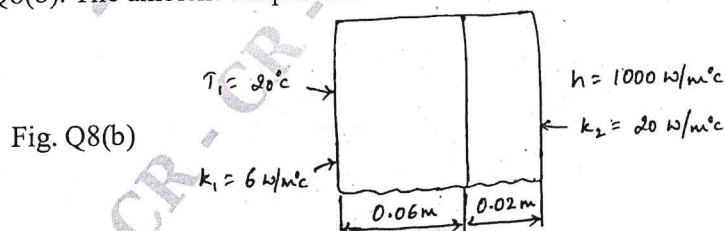

Fig. Q8(b)
b. Determine the temperature distribution through the composite wall subjected to convection heat loss on the right side surface with convective heat transfer coefficient as shown in fig. Q8(b). The ambient temperature is -5°C . (12 Marks)